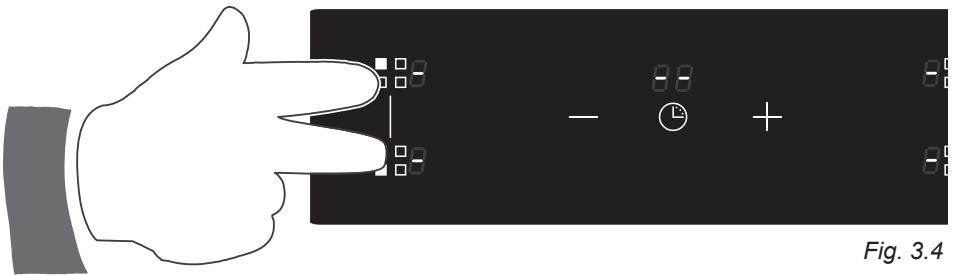

Fig. 3.4
- Select both of the two zones by finger pressure (fig. 3.4).